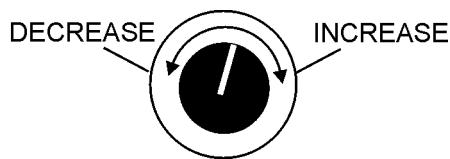

Figure 43. Voltage Adjust Control Knob
7. If the voltage is not within the specified tolerance use the voltage adjustment control knob (Figure 43) to increase or decrease the desired voltage.